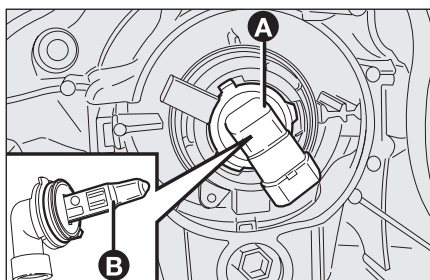

fig. 17
- ☐ turn connector **A**-fig. 17 counter-clockwise and remove it;
- ☐ remove the bulb **B**-fig. 17 and fit the new bulb.